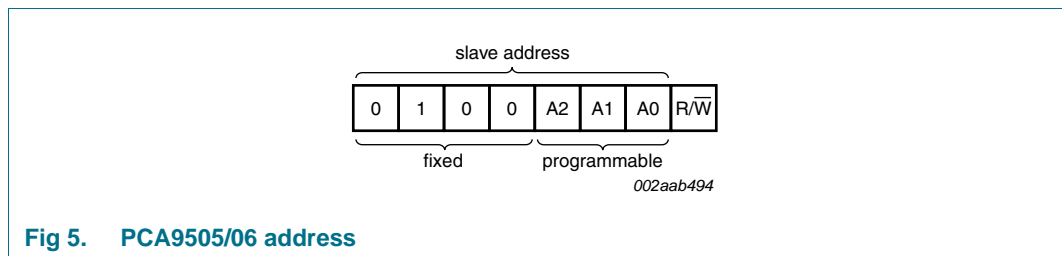

Fig 5. PCA9505/06 address
Following a START condition, the bus master must send the address of the slave it is accessing and the operation it wants to perform (read or write). The address of the PCA9505/06 is shown in Figure 5. Slave address pins A2, A1, and A0 choose 1 of 8 slave addresses and need to be connected to VDD (1) or VSS (0). To conserve power, no internal pull-up resistors are incorporated on A2, A1, and A0.